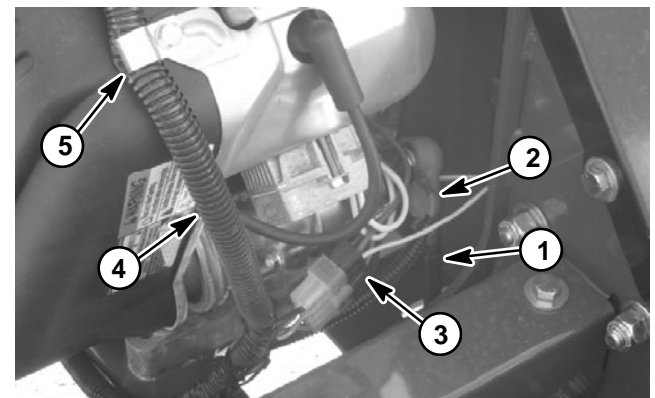

Figure 13
4. Unplug engine electrical harness connector from machine wire harness (Fig. 13).
5. Disconnect positive cable and fusible link from the starter motor (Fig. 13).
7. Loosen screw that secures harness clamp to engine (Fig. 13). Position machine wire harness away from engine.
9. Make sure that tinnerman nuts (items 23 and 40) are correctly positioned at frame brackets.
11. Plug engine electrical harness connector into machine wire harness (Fig. 13).
12. Connect positive cable and fusible link to starter motor (Fig. 13).
14. Position wire harness under harness clamp on engine and secure in place with screw (Fig. 13).